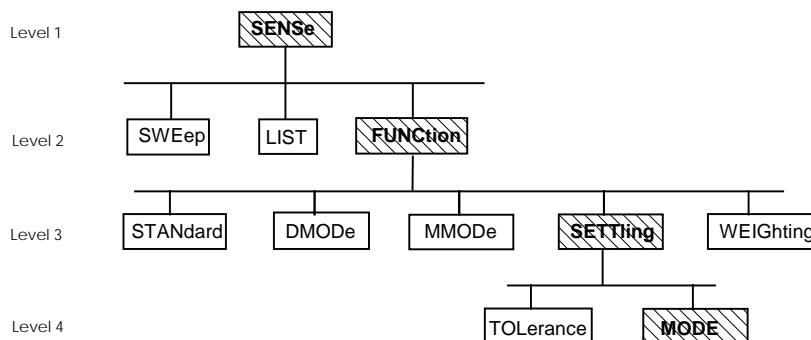

Fig. 3-1 Tree structure of SCPI command system, SENSe being shown as an example
SCPI (Standard Commands for Programmable Instruments) describes a standardized command set for the programming of instruments regardless of the type of instrument or manufacturer. The goal of the SCPI Consortium is to standardize device-specific commands to a large extent. For this purpose an instrument model has been developed which defines identical functions within an instrument or of different instruments. Command systems have been generated and assigned to these functions so that it is possible to address identical functions by the same commands. The command systems have a hierarchical structure. Fig. 3-1 shows this tree structure, using a detail from the SOURce command system for controlling the signal sources of the instrument. The other examples of syntax and structure of the commands are taken from this command system.
**Hierarchy** Device-specific commands have a hierarchical structure (see Fig. 3-1). The various levels are represented by compound headers. Headers of the highest level (root level) have one keyword only. This keyword stands for a whole command system.
If the successive commands belong to the same system and therefore have one or several common levels, the command line may be shortened. The second command following the semicolon then starts at the level that is below the common levels (see also Fig. 3-1). The colon after the semicolon has to be omitted.